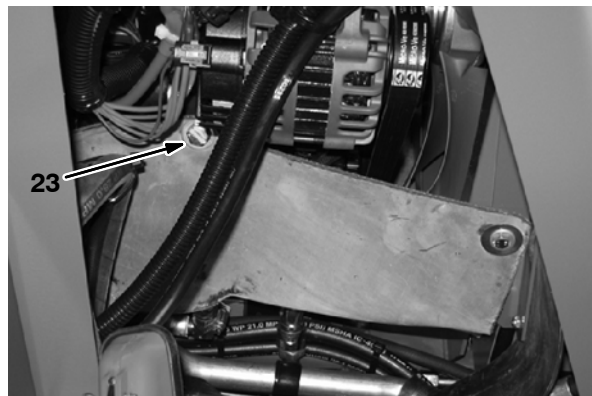

FIG. 15
- Stretch the loose end of the radiator debris skirt (17) tight over to where the hex screw was removed in the previous step and use the saved hex screw and a flat washer (23) to secure the radiator debris skirt to the alternator bracket. The radiator debris skirt must be stretched tight so it does not get sucked into the fan or belt. Refer to Fig. 15.